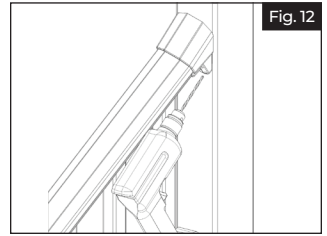
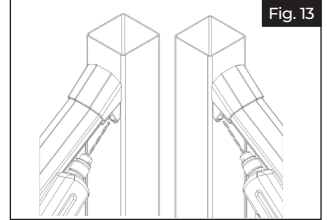

Fig. 12
Fig. 13
- a. Center your bracket on the post. Using the holes in the bracket as a guide, pre-drill one of the lower holes with a $\frac{1}{32}$ " drill bit (Fig 12). Drive one of the #10 x 3" screws through this hole. Pre-drill the other lower hole and drive another 3" screw into it. Now pre-drill the upper 2 holes in the bracket (Fig 13). Drive two more 2" screws into those holes. Be careful not to overtighten.